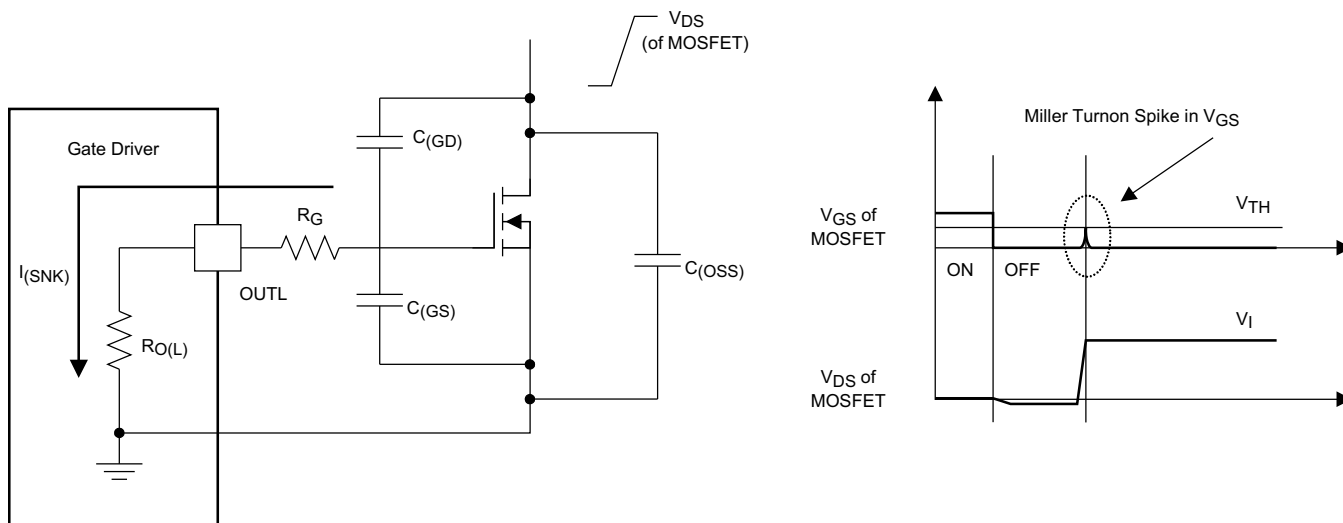

Figure 24. Very-Low Pulldown Impedance in UCC27511A, 4-A and 8-A Asymmetrical Drive (Output Stage Mitigates Miller Turnon Effect)
An example of a situation where the Miller turnon effect is a concern is synchronous rectification (SR). In an SR application, the  $dV/dt$  occurs on the MOSFET drain when the MOSFET is already held in off state by the gate driver. The current discharging the  $C_{(GD)}$  Miller capacitance during this  $dV/dt$  is shunted by the pulldown stage of the driver. If the pulldown impedance is not low enough then a voltage spike can result in the  $V_{GS}$  of the MOSFET, which can result in spurious turnon. This phenomenon is shown in Figure 24. The UCC27511A device offers a best-in-class, 0.375- $\Omega$  (typ) pulldown impedance boosting immunity against Miller turnon.